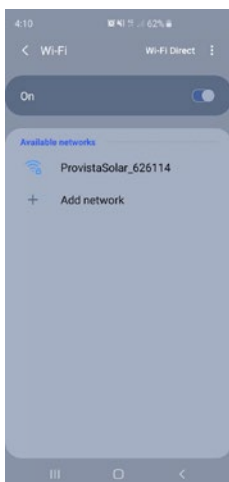

Fig. 1
1. Head to the WiFi settings on your device. Connect to the ProVista Solar connection you should see. Fig. 1